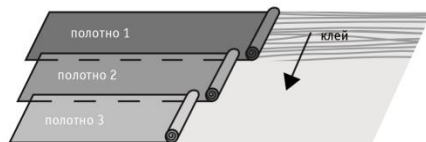

Figure 3
9.2 Evenly apply glue on the floor foundation using a notched trowel for glue following the recommendations of the glue manufacturer (see Fig. 3). The area for adhesive application depends on “open time” – a period from the time the adhesive is applied to the foundation to the time the surfaces are glued together under ambient conditions – that is, a period during which the adhesive preserves its adhesive properties.